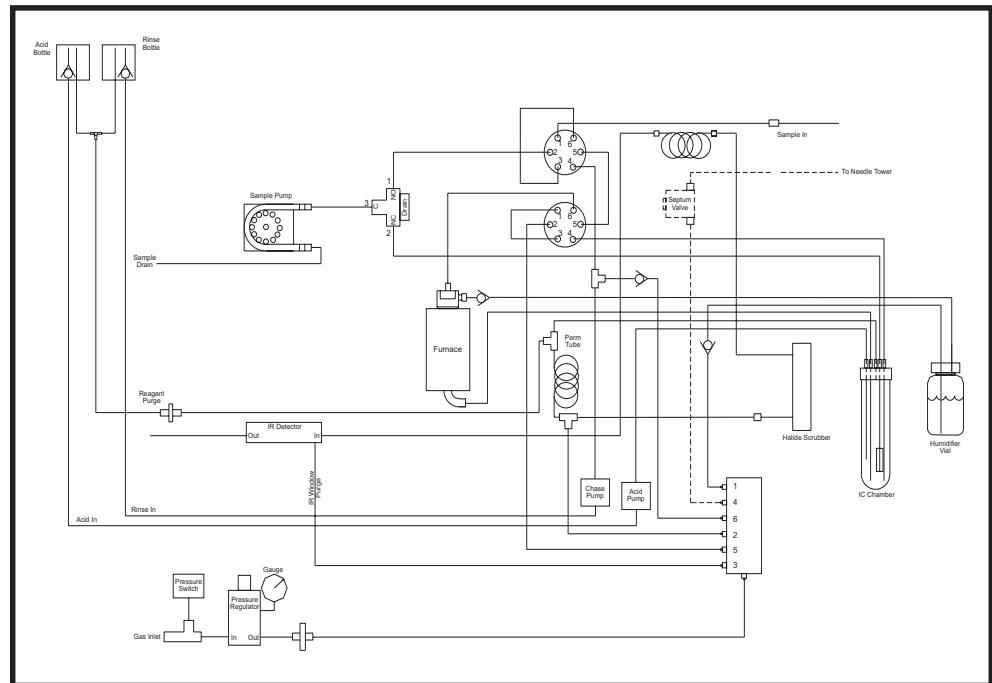

Figure 6.3. Model 1020A TOC Analyzer Flow Diagram
3. Locate the NDIR vent line on the NDIR assembly (see Figure 6.3).